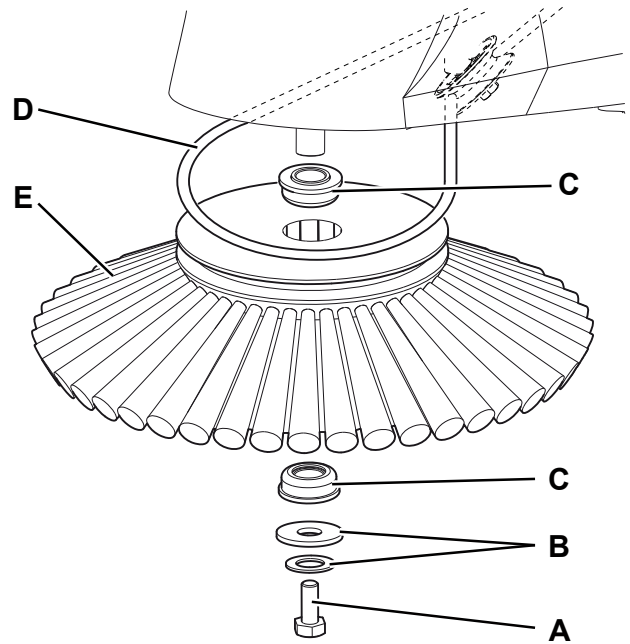

Figure 3
2. Remove the screw (A, Fig. 3), and keep the washer (B) and the bearings (C) for reassembly.
3. Remove the driving belt (D) and the side broom (E).